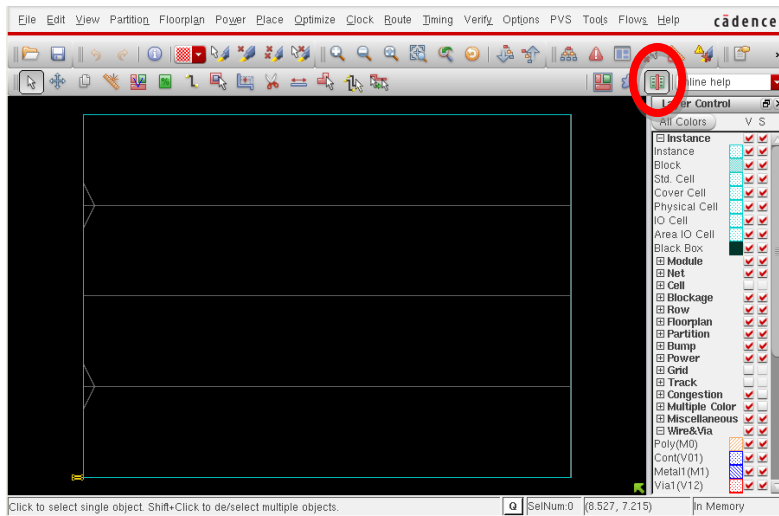

Figure 3 Ready for Floorplanning
4. Hit **f** to see the full view. Click on the icon (red circle) as shown in Figure 3.